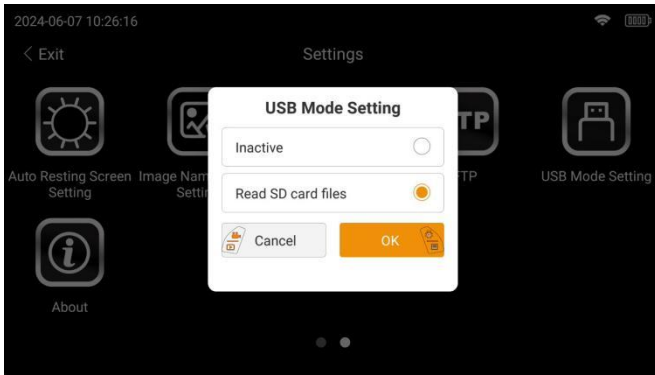

Figure 8-29
3. Tap Services, select FTP, enter the parameters as shown in Figure 8-29, tap Connect, and wait for the connection.
Touch the icon [USB Mode Setting] in the main interface of system setting to set the USB mode setting (see Figure 8-29) :